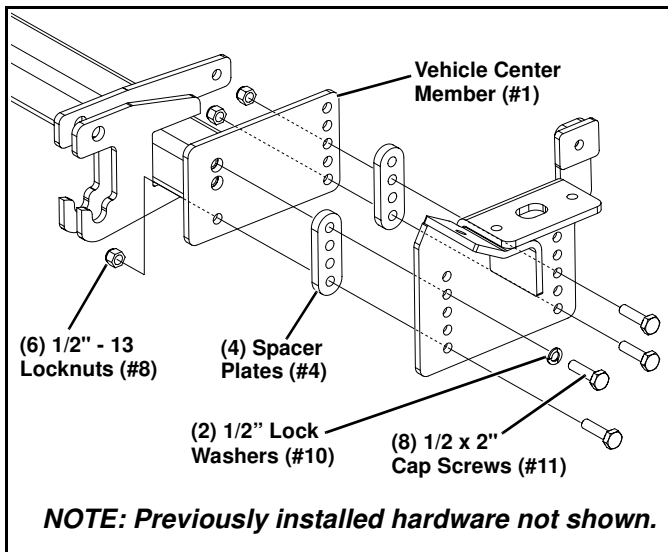

Figure 3
- Attach Vehicle Center Member (#1) to the Driver and Passenger Side Mount Weldments (#2 & 3). Secure using (4) 1/2" Spacer Plates (#4), (2) 1/2" Lock Washers (#10), (8) 1/2"-13 x 2" Cap Screws (#11), and (6) 1/2"-13 Locknuts (#8) (See Figure 3).